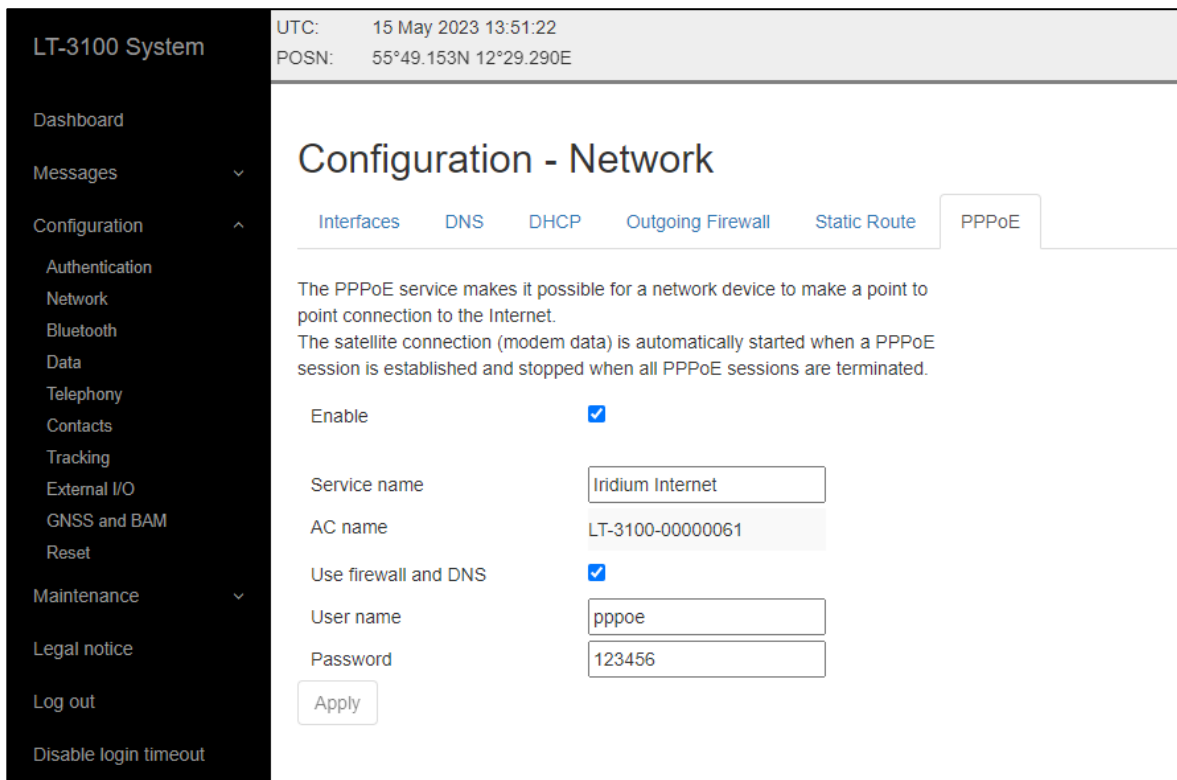

Figure 151: Web server – Network (PPPoE)
The PPPoE connection must be configured by setting up the Service name, Access Concentrator (AC) name, User name and Password. See Figure 151 for configuration.